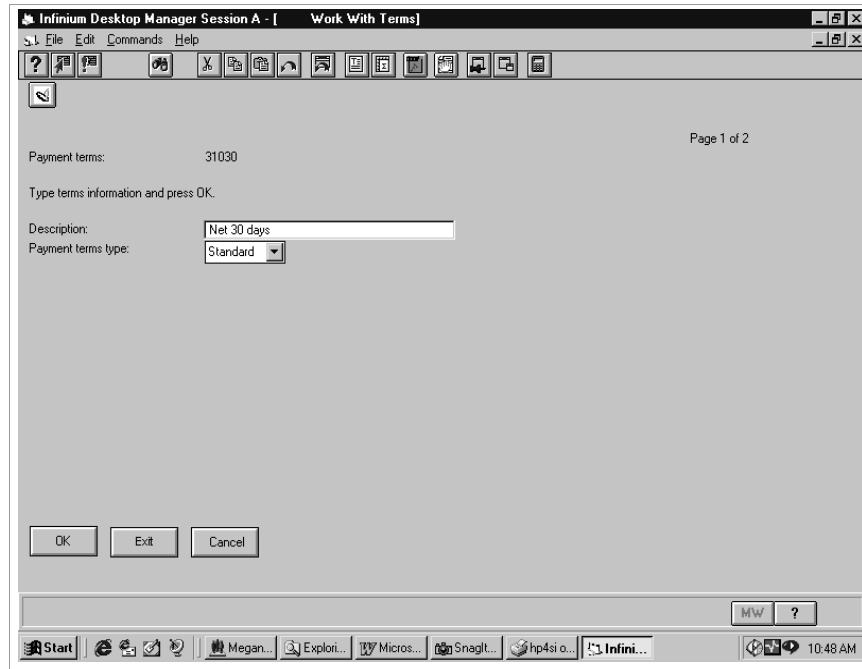

Figure 3-7: Work With Terms screen 1
- 5 Press Enter. The system displays the screen shown in Figure 3-7.